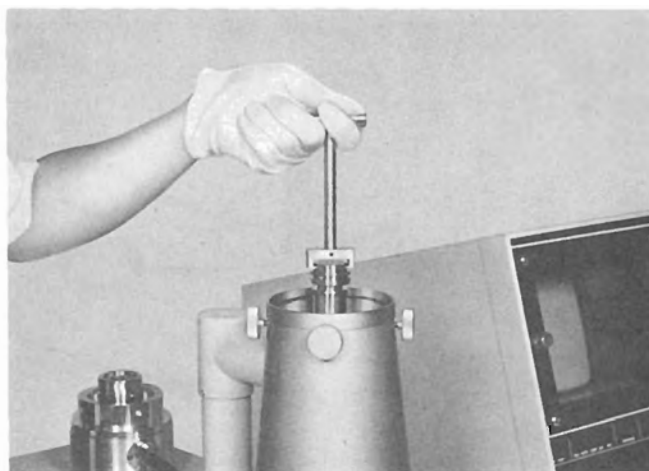

Fig. 5.5 Removing the condenser lens pole-piece assembly
3. After first removing the electron gun, unscrew the anode with the pole-piece removing tool (see Fig. 5.5) and carefully remove the pole piece assembly by lifting it straight up.